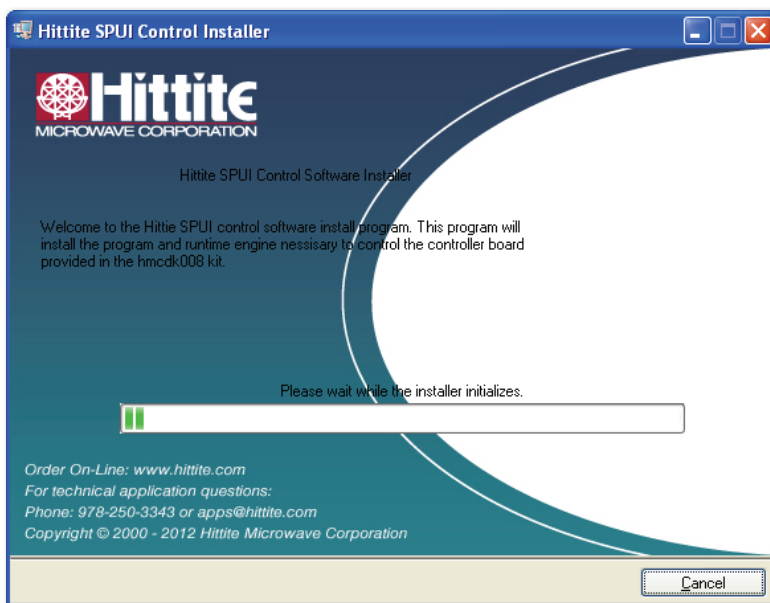

Figure 7. Software Installation Screen 1.
1. Locate the setup icon on CD-ROM and double click on it. The CD should then automatically begin loading the SPUI software to the PC by launching the pop-up box shown in Figure 7.